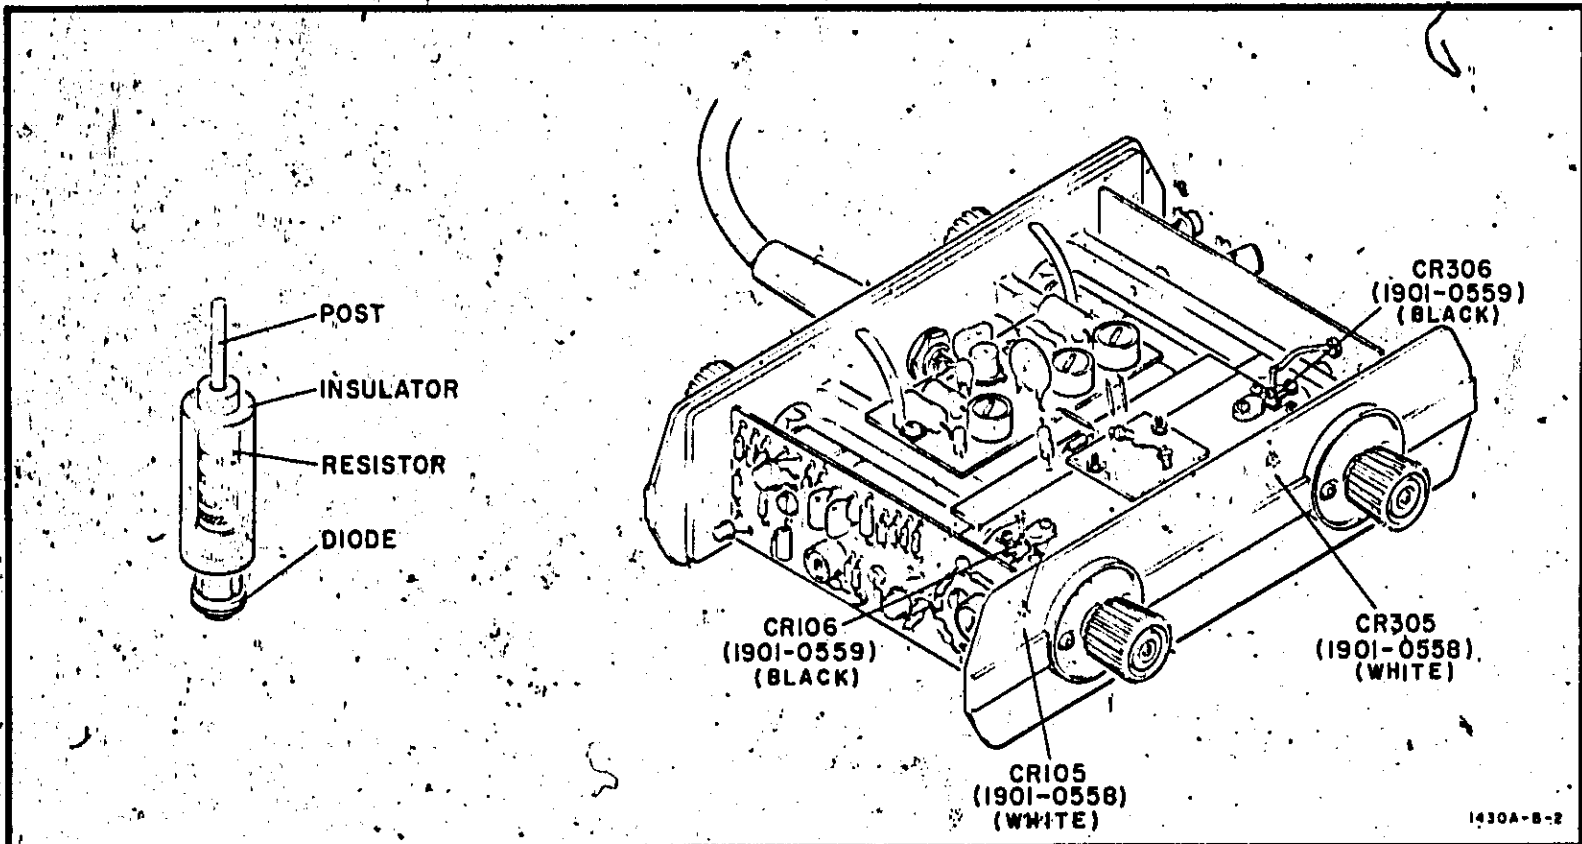

Figure 8-2A. Diode and Resistor Assembly, Model 1430A and 1431A
b. Gently withdraw the diode insulator assembly from the sampler. It should appear exactly as in Figure 8-2A. If the glass bead is broken off, it may remain inside the sampler. It must be removed before the new diode assembly is inserted. To remove the broken bead, turn the sampler upside-down and gently tap the side of the block. Do not bang the connectors.
d. Refer to Figure 8-2A to make sure the correct diode assembly is being used as a replacement. Insert the assembly straight into the sampler. (A lateral blow is in the plane most likely to break the glass bead.) The glass bead should center itself in the bottom of the hole.